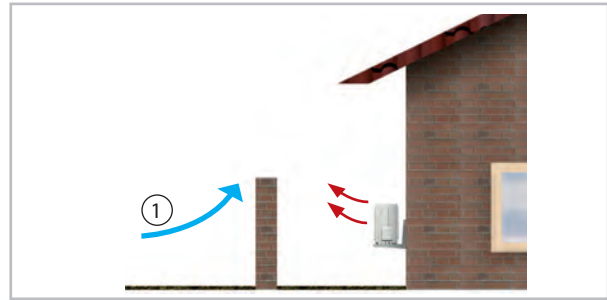
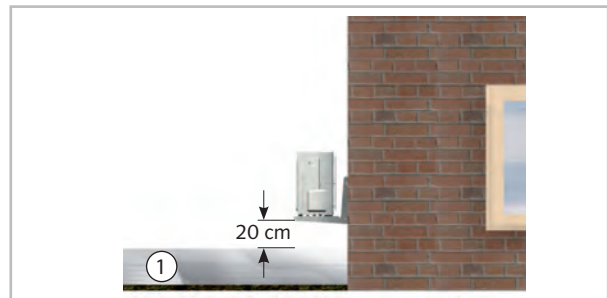

Fig. 43: Protection against wind
Fig. 44: Protection against snow
- If the outdoor unit is erected in an area of strong winds, then the unit must be protected against them and additional stabilisation is recommended. This can be realised for example with wire ropes or other constructions (Fig. 43). The snow line is to be observed during installation (Fig. 44).
- During installation, add about 20 cm to the expected snow depth to guarantee unimpeded intake and exhaust of outdoor air year round (Fig. 44).